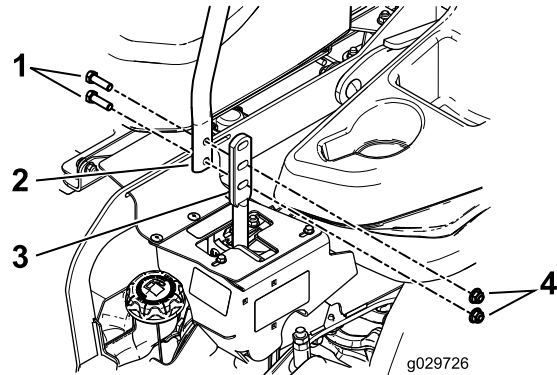

Figure 89
3. Loosen the bolts and flange nuts installed in the levers (Figure 89).
4. Align the levers in the front-to-rear position by bringing the levers together to the NEUTRAL position, slide them until they are aligned, and tighten the bolts (Figure 89).